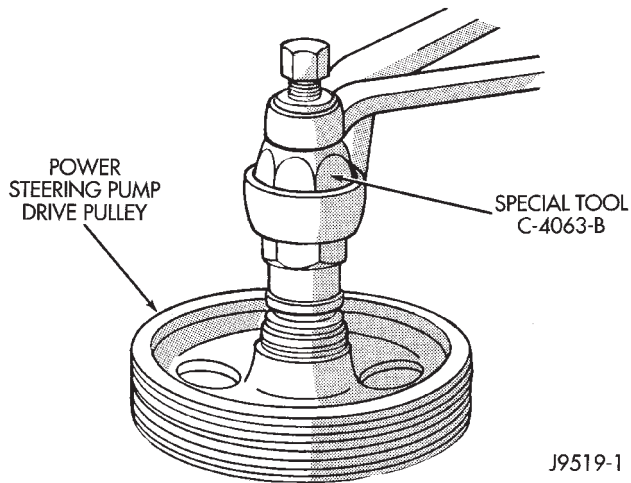

Fig. 6 Install Drive Pulley—Typical
- (1) Install 3 front bracket-to-pump bolts. Tighten to 28 N•m (21 ft. lbs.) torque.
- (2) Install pulley on pump. Refer to Drive Pulley Replacement in this section (Fig. 6).
- (1) Install the pulley with Installer C-4063-B (Fig. 6). Do not use the tool adapters.